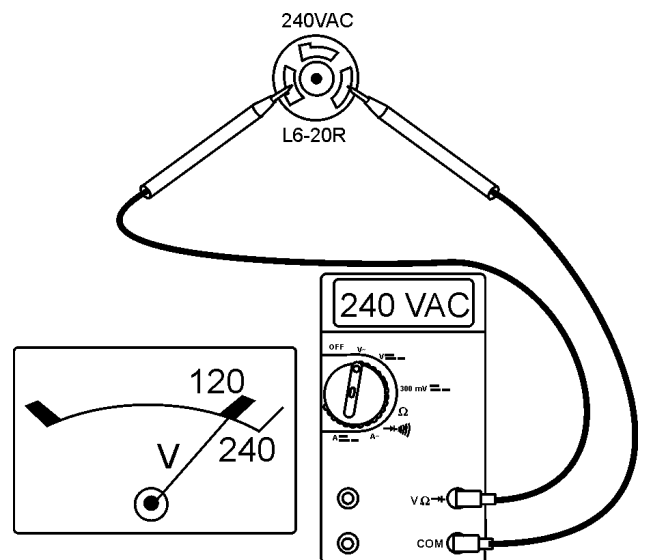

Figure 22. 240V Receptacle
15. Read voltmeter on front panel of generator (Figure 22) and verify that 240 VAC is displayed. Using an external voltmeter as shown in Figure 22, verify that 240 VAC is present at the 240V twist-lock receptacle.